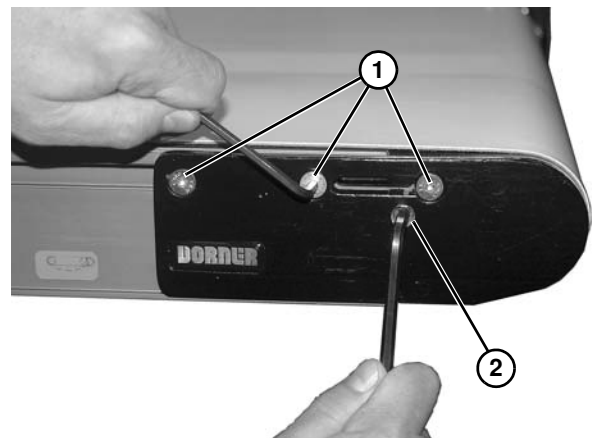

Figure 62
- On the side opposite which the belt is tracking, loosen head plate fastening screws (**Figure 62, item 1**).
- With the conveyor running, use a hex-key wrench to rotate the tracking cam (**Figure 62, item 2**) to retract tail in small increments until the belt tracks in the center of the conveyor. Then while holding the cam in position, re-tighten the head plate fastening screws (**Figure 62, item 1**) to 60 in-lb (7 Nm).